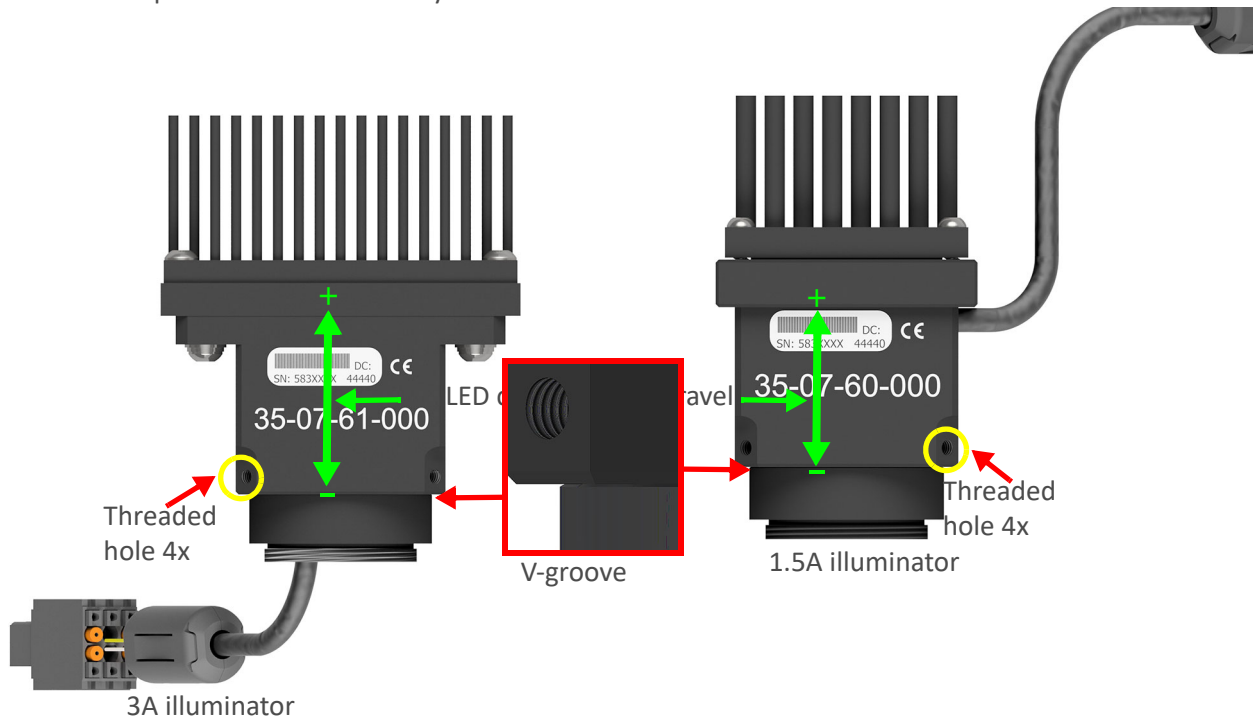

Figure 4 *Adjusting the Illuminator Assembly Optics*
- To align the illuminator for the Optem® FUSION 10x M Plan objective, adjust the position of the illuminator until the middle of V-groove on the lens compartment is aligned with the LED compartment as shown in Figure 4.
NOTE: + means that the LED compartment is pulled back from the microscope body. - means that the LED compartment is pushed towards the microscope body as shown in Figure 4.